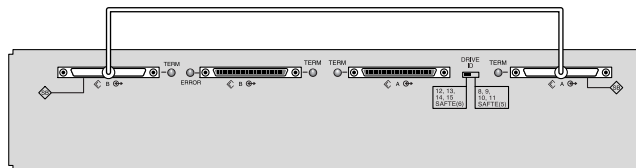
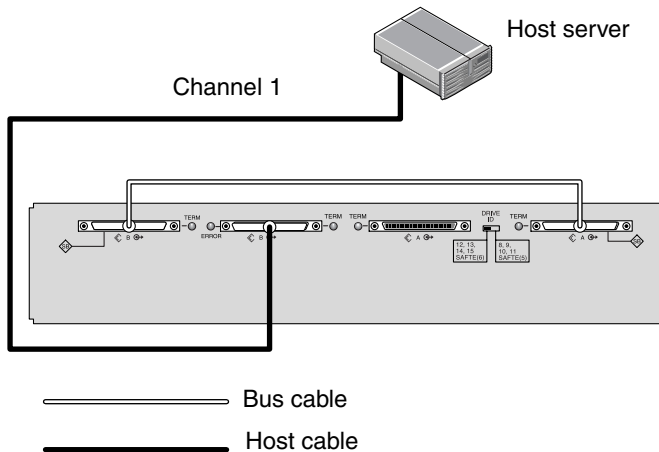
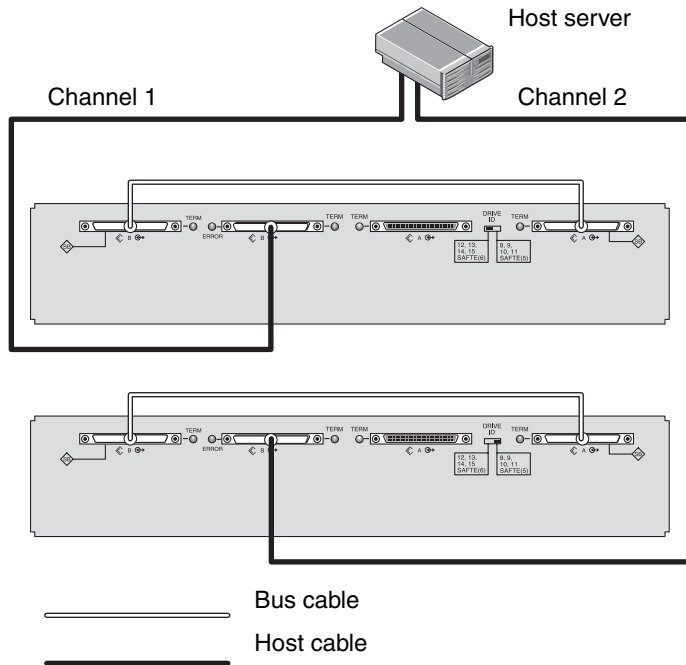

FIGURE 4-8 Cabling for Single-Bus JBOD
FIGURE 4-9 JBOD Directly Connected to a Host (Single-Bus)
FIGURE 4-10 Multiple JBODs Directly Connected to a Host (Single-Bus)
2. Connect your JBOD array to a host server with SCSI cables as shown in FIGURE 4-8, FIGURE 4-9, or FIGURE 4-10.
In FIGURE 4-9, the host server is connected to port B Out. The following table shows the drive IDs for FIGURE 4-9.
In FIGURE 4-10, the host server is connected to port B Out. The following table shows the drive IDs for FIGURE 4-10.